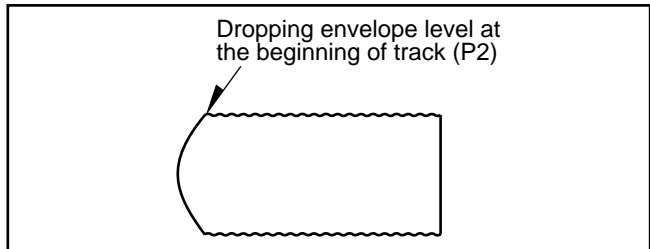
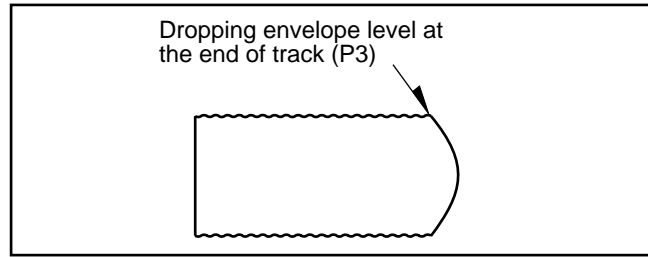
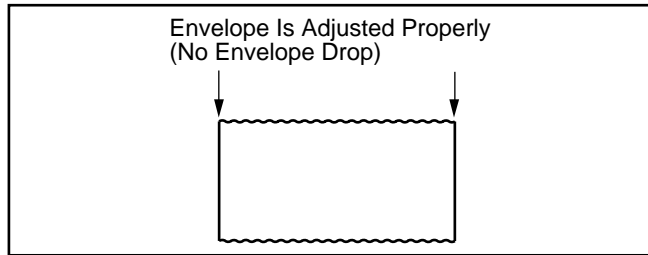

Fig. M17-2
Fig. M17-3
Fig. M17-4
3. When the scope display is as shown in Fig. M17-2, adjust the height of P2 so that the waveform looks like the one shown in Fig. M17-4.
4. When the scope display is as shown in Fig. M17-3, adjust the height of P3 so that the waveform looks like the one shown in Fig. M17-4.
5. When P2 and P3 are adjusted properly, there is no Envelope Drop at the beginning or end of the track as shown in Fig. M17-4.